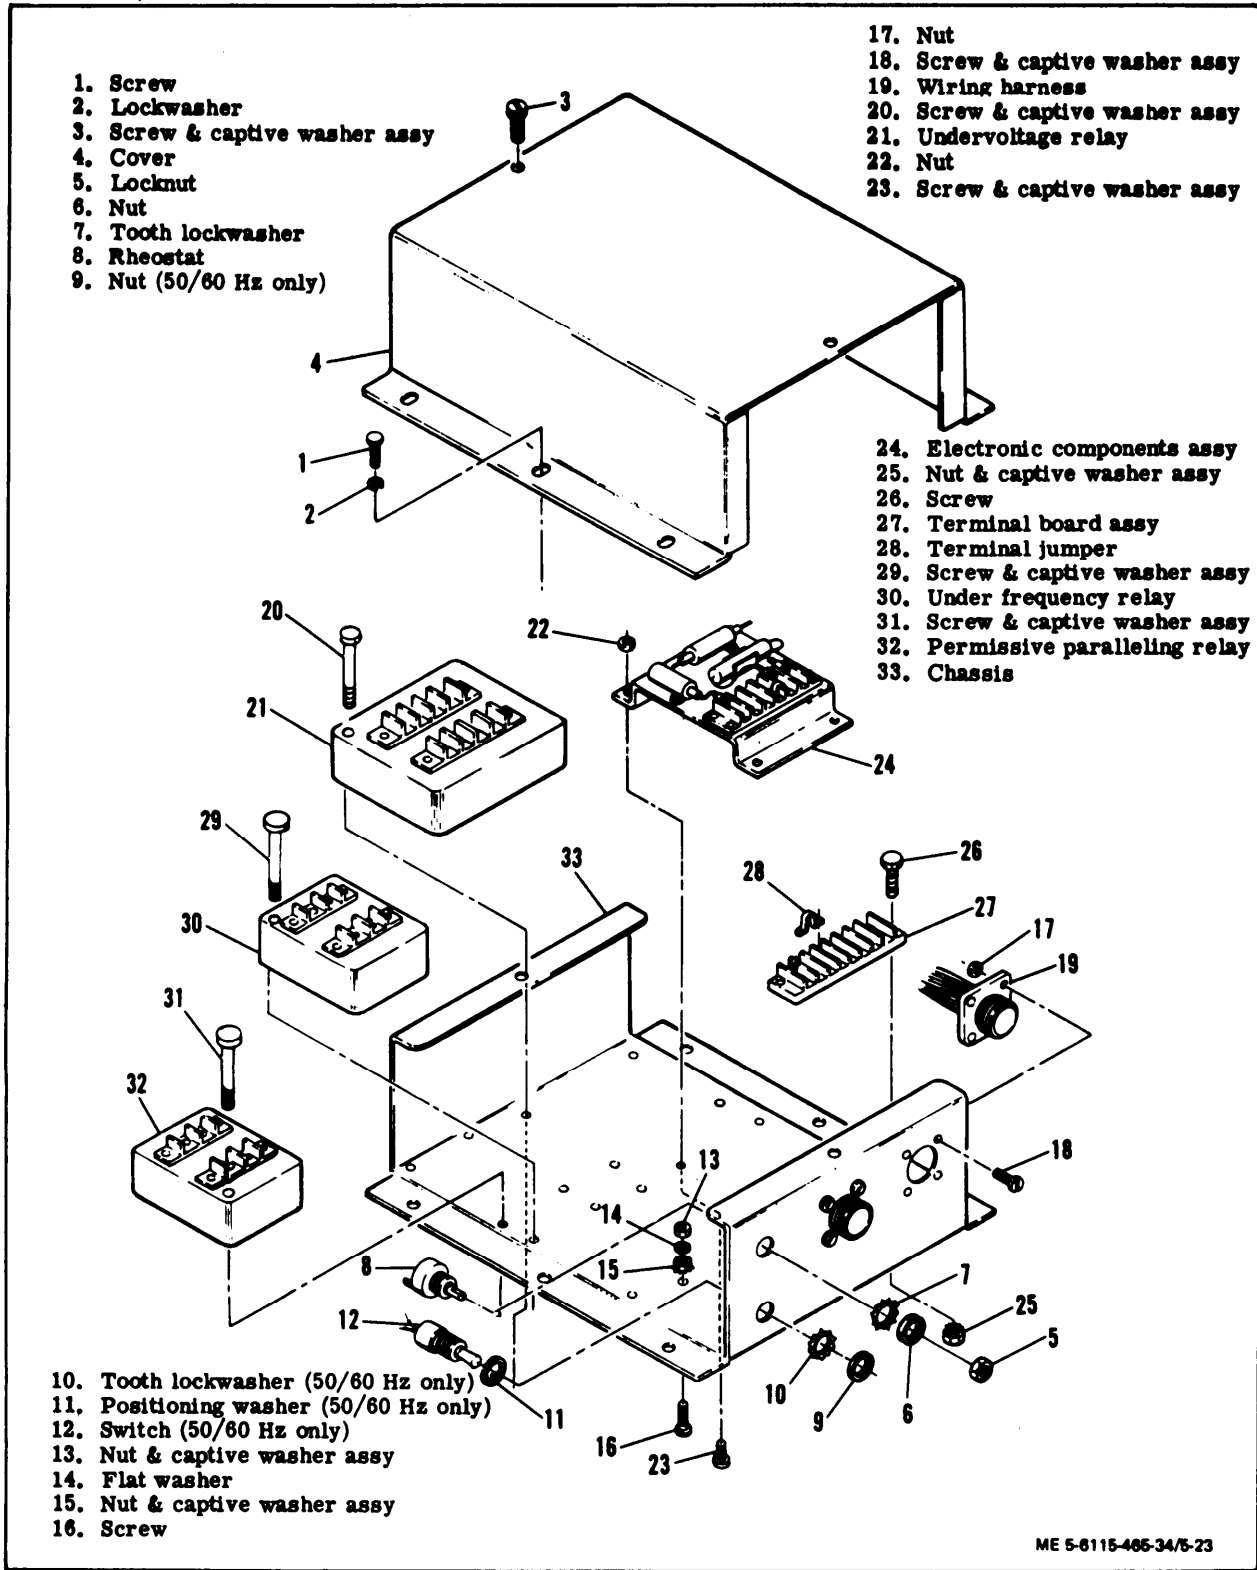

Figure 5-23. Precise Relay Assembly, Exploded View
- (1) Disconnect electrical connectors to precise relay assembly.
- (2) Remove screws (1, figure 5-23) and lock-washers (2) to remove precise relay assembly from generator set.
b. Disassembly. Disassemble precise relay assembly (items 3 through 33, figure 5-23) only as required to clean, inspect, test, or replace parts.